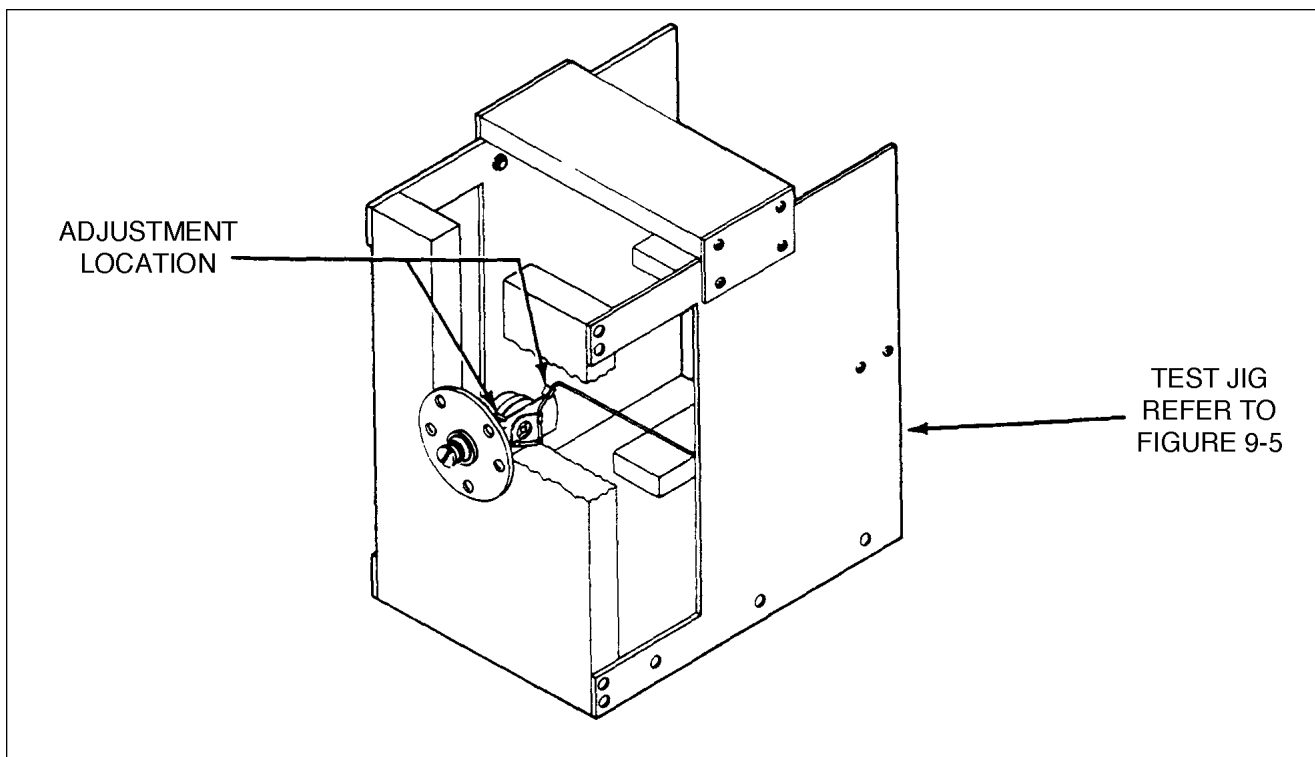
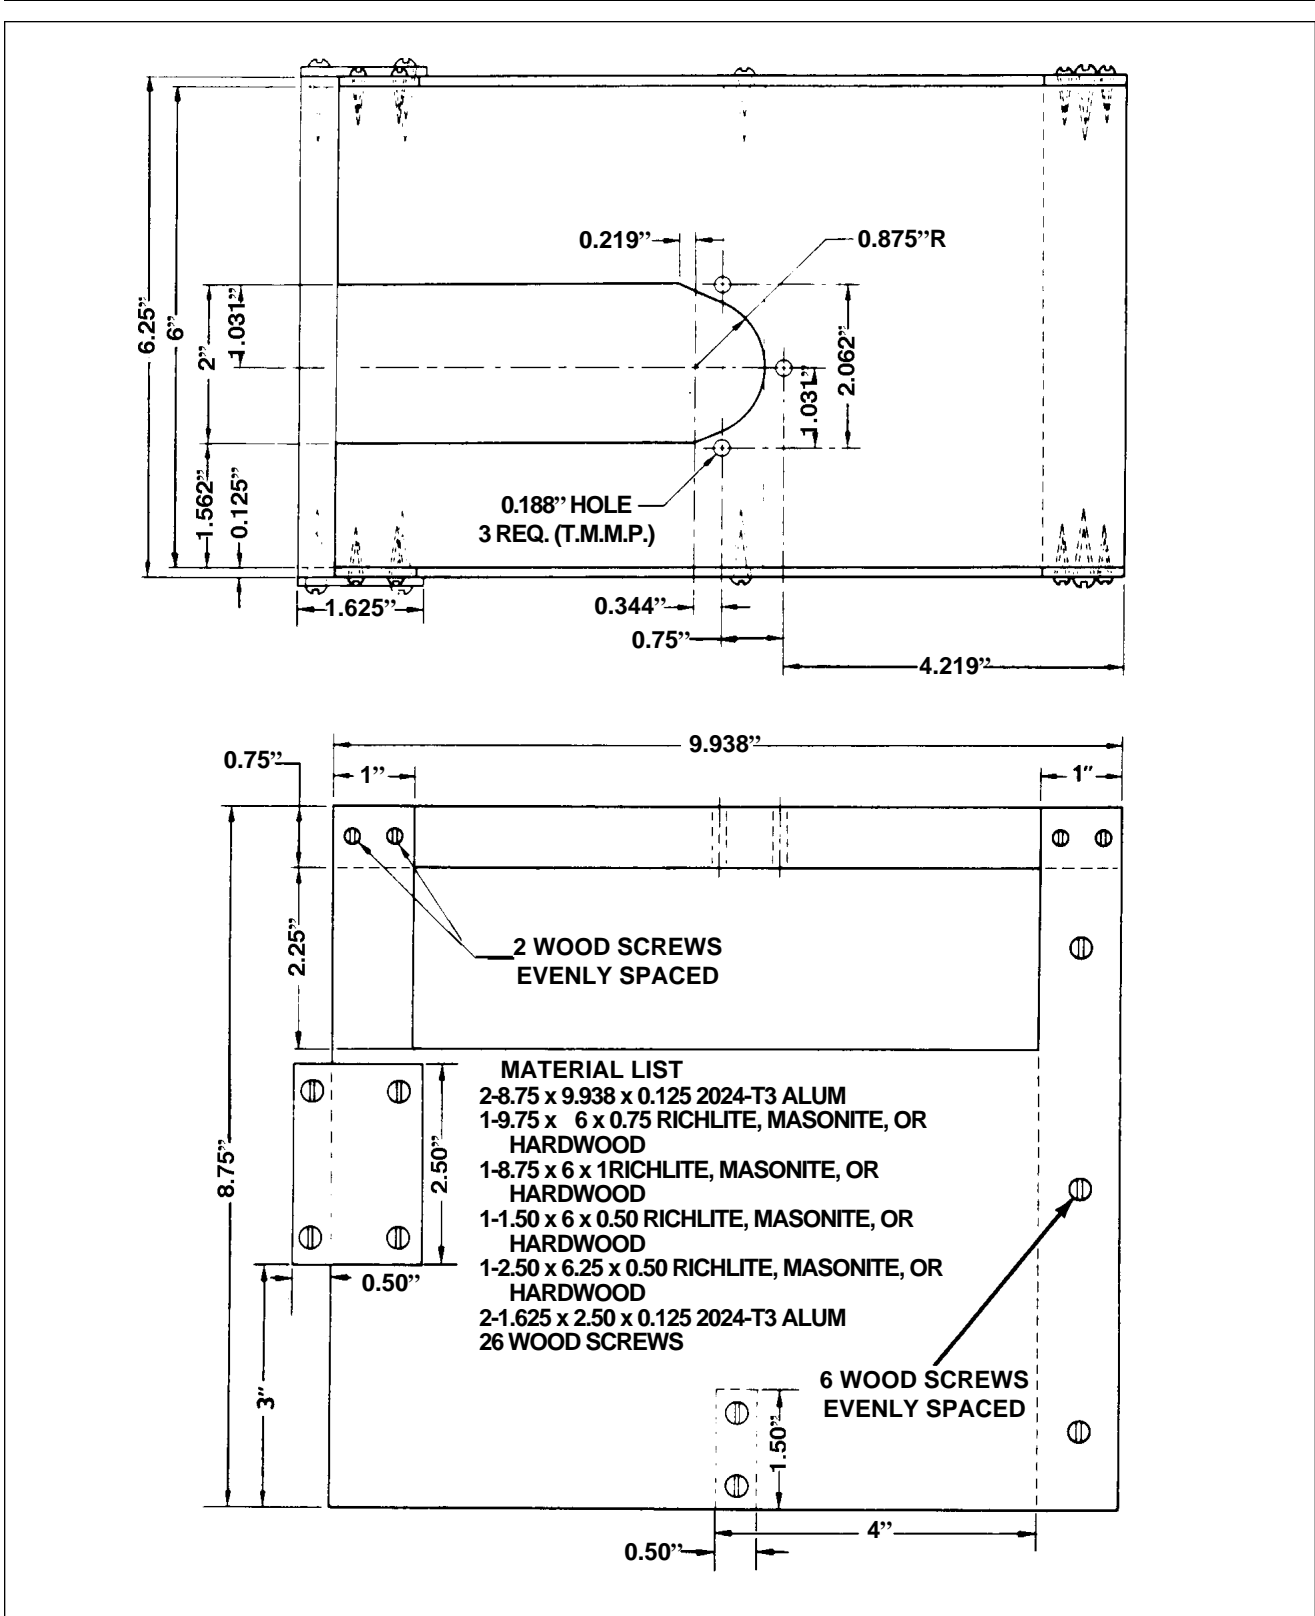

Figure 9-6. Fuel Quantity Transmitter Checking Jig
Figure 9-7. Fabricated Fuel Quantity Transmitter Checking Jig.
(A) Fasten unit to a fabricated checking jig (Figure 9-6.) with washer and nuts. (Fabricate jig per Figure 9-7 dimensions.)
(B) Check with the float arm down against mechanical stop on transmitter, the float is just touching base of jig. (Float may be to 0.18 inch above base.) If float does not touch the base or float arm is not against bottom stop, adjust float assembly arm stop by bending it per Figure 9-6. The entire surface of float must be horizontal with the jig base.
(A) Fasten unit to a fabricated checking jig with washer and nuts as shown in Figure 9-6. (Fabricate jig per Figure 9-7 dimensions.)
(B) Check resistance with the float just touching the top, back of a 0.27 inch spacer. Resistance of the sending unit is 3 ohms,  $\pm 0.5$  ohm. If the resistance of the sending unit is not in this range, adjust arm of the float assembly by gently bending it as shown in Figure 9-6. The entire float must be kept horizontal to the base of the fixture.